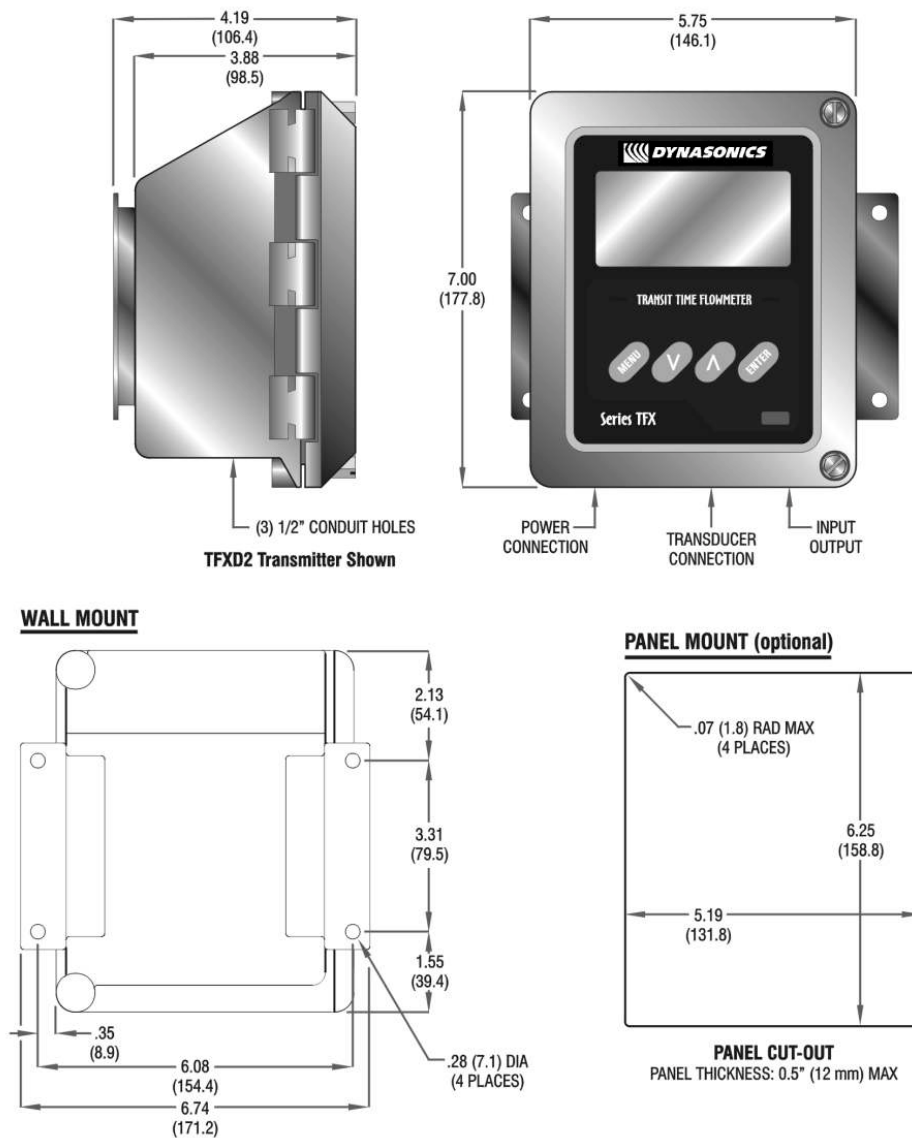

Figure 1.2 - TFX Transmitter Installation Dimensions
3. Mounting: Refer to **Figure 1.2** for enclosure and mounting dimension details. Ensure that enough room is available to allow for door swing, maintenance and conduit entrances. Secure the enclosure to a flat surface with four appropriate fasteners.